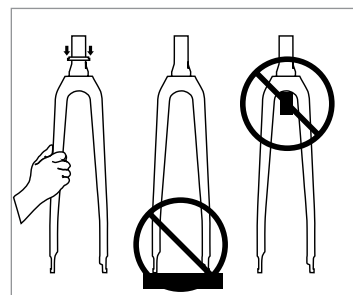

Figure 2
1. Install crown race according to manufacturer’s instructions. **⚠ WARNING:** Do not rest the fork dropouts on the floor or other hard surface; doing so can damage the fork, making it unsafe to ride. (Fig. 2).